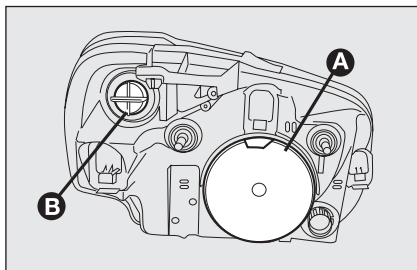
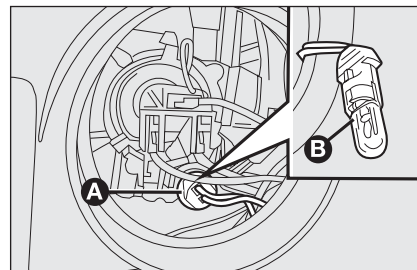

fig. 23
fig. 24
FRONT LIGHT CLUSTERS fig. 23
- ☐ remove the protection lid **A**-fig. 23;
- ☐ turn the bulb holder anticlockwise **A**-fig. 24 and pull it out;
- ☐ install the new bulb: fit the bulb back in position **A**-fig. 24 and put the protection lid **A**-fig. 23 back.
- ☐ release the bulb stop clip as shown by the arrows **fig. 23**;
- ☐ close the bulb stop clip and reinstall the protection lid **A**-fig. 23;
- ☐ turn the protection lid **B**-fig. 23 anti-clockwise;